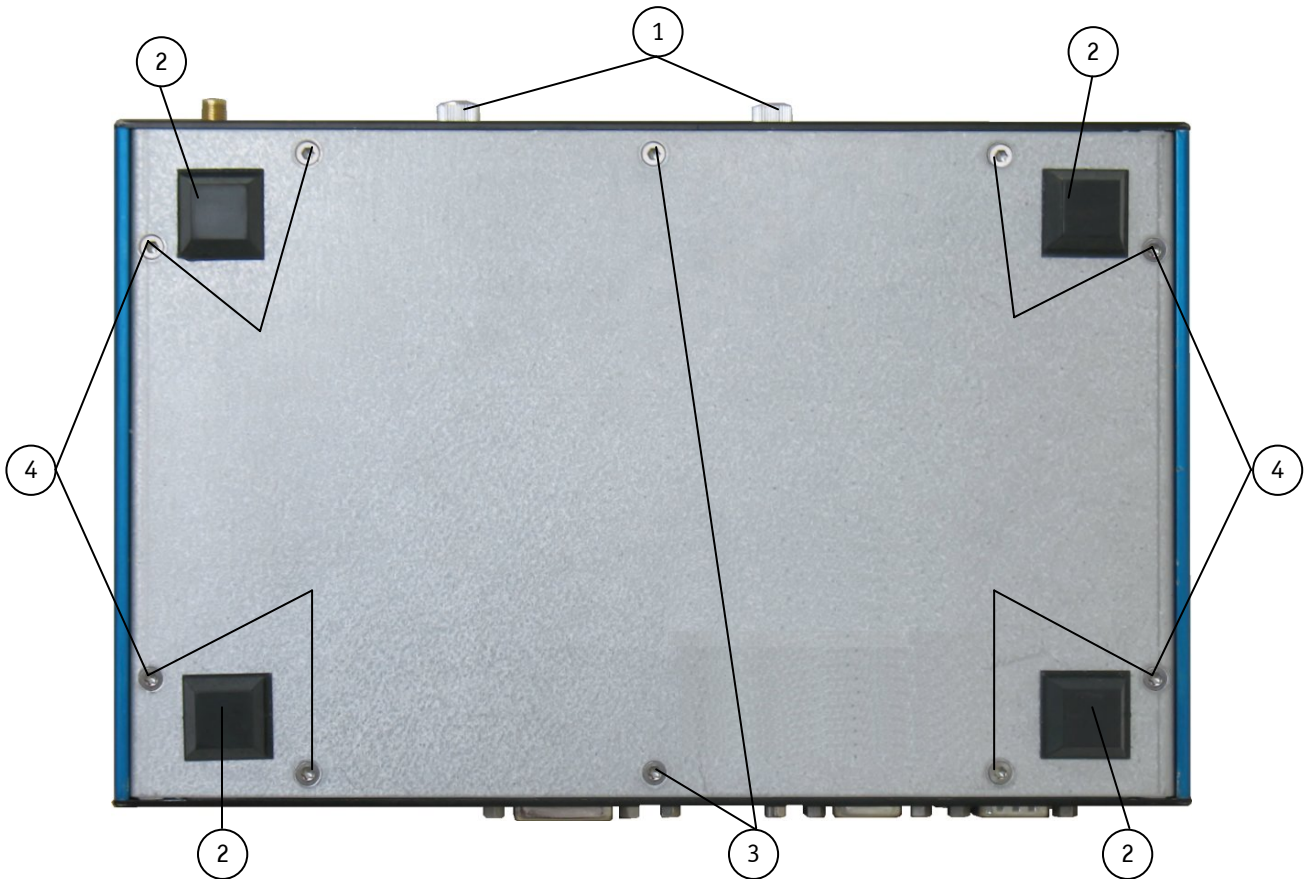

Fig. 19: Bottom side
For mounting the CB 752 platform on a wall (vertical) or on a table (horizontal) two mounting brackets (see Fig. 25 and Fig. 26) are available (see chapter 11.2.2 "Dimensions for Wall and Table Mounting"). It requires little effort to attach the mounting brackets to the bottom side of the CB 752 platform. Use the installed torx screws (Fig. 19, pos. 4). To do so, the rubber feet have to be removed first.